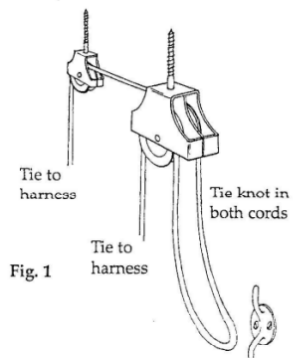

Fig. 1
1. First decide whether you need a left or right hand fastening. The double pulley and cleat will go on this side (fig. 1).
4. Pass the other end of the cord through single pulley, extend across ceiling to double pulley, over the top of one wheel and pass down the back of pulley between wheel and pulley frame (Fig. 1).
5. Pull through excess cord and with the same end return through back of second wheel on double pulley, over the top of wheel and down the front of wheel (Fig. 1).
9. Tie stop knot in both cords behind double pulley. This will stop ainer falling below loading height (Fig. 1).